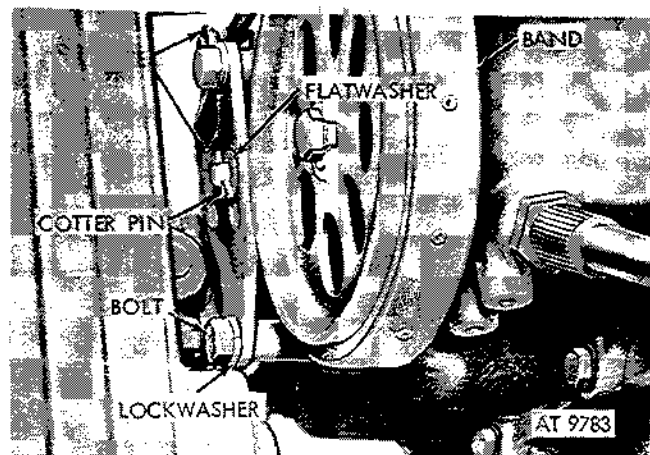

Figure 2-360. Remove band and lining from parking brake drum.
(5) Remove cotter pin and washer and two bolts and lockwashers securing band to anchor support plates and lever plates (fig. 2-360).
(6) Withdraw band and lining from parking brake drum (fig. 2-360).